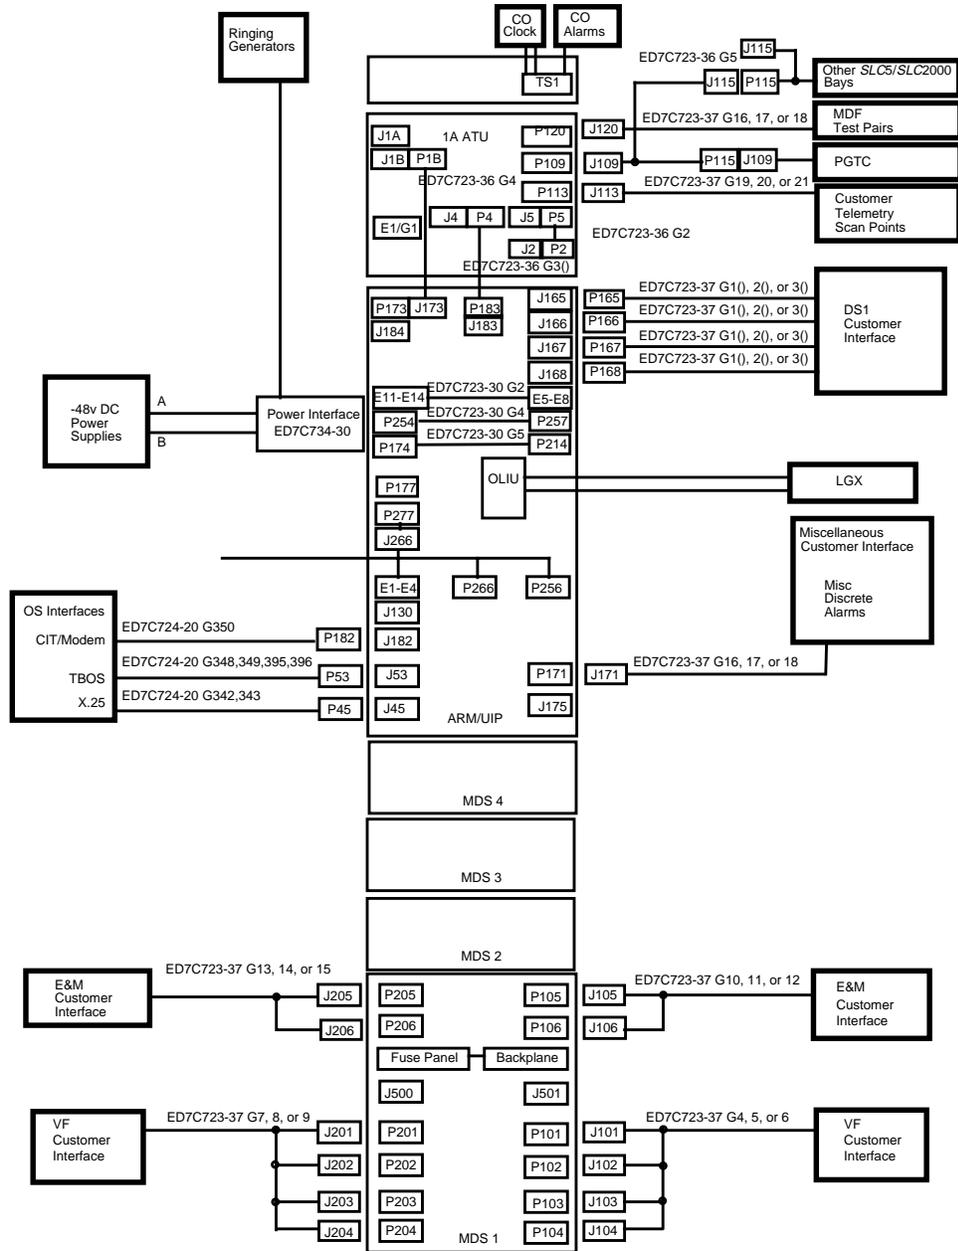

Figure 3-21. Customer Interface Cables
- Step 2:* Terminate the pairs at the MDF and label the leads in accordance with Figure 3-21.